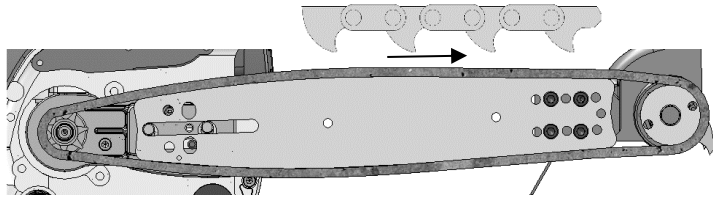

Fig. 3: Putting on the chain
- > Now place the chain around the chainsaw sprocket and around the drive sprocket. Insert the drive links into the rail. Make sure that the chain is running in the correct direction (Fig. 3)